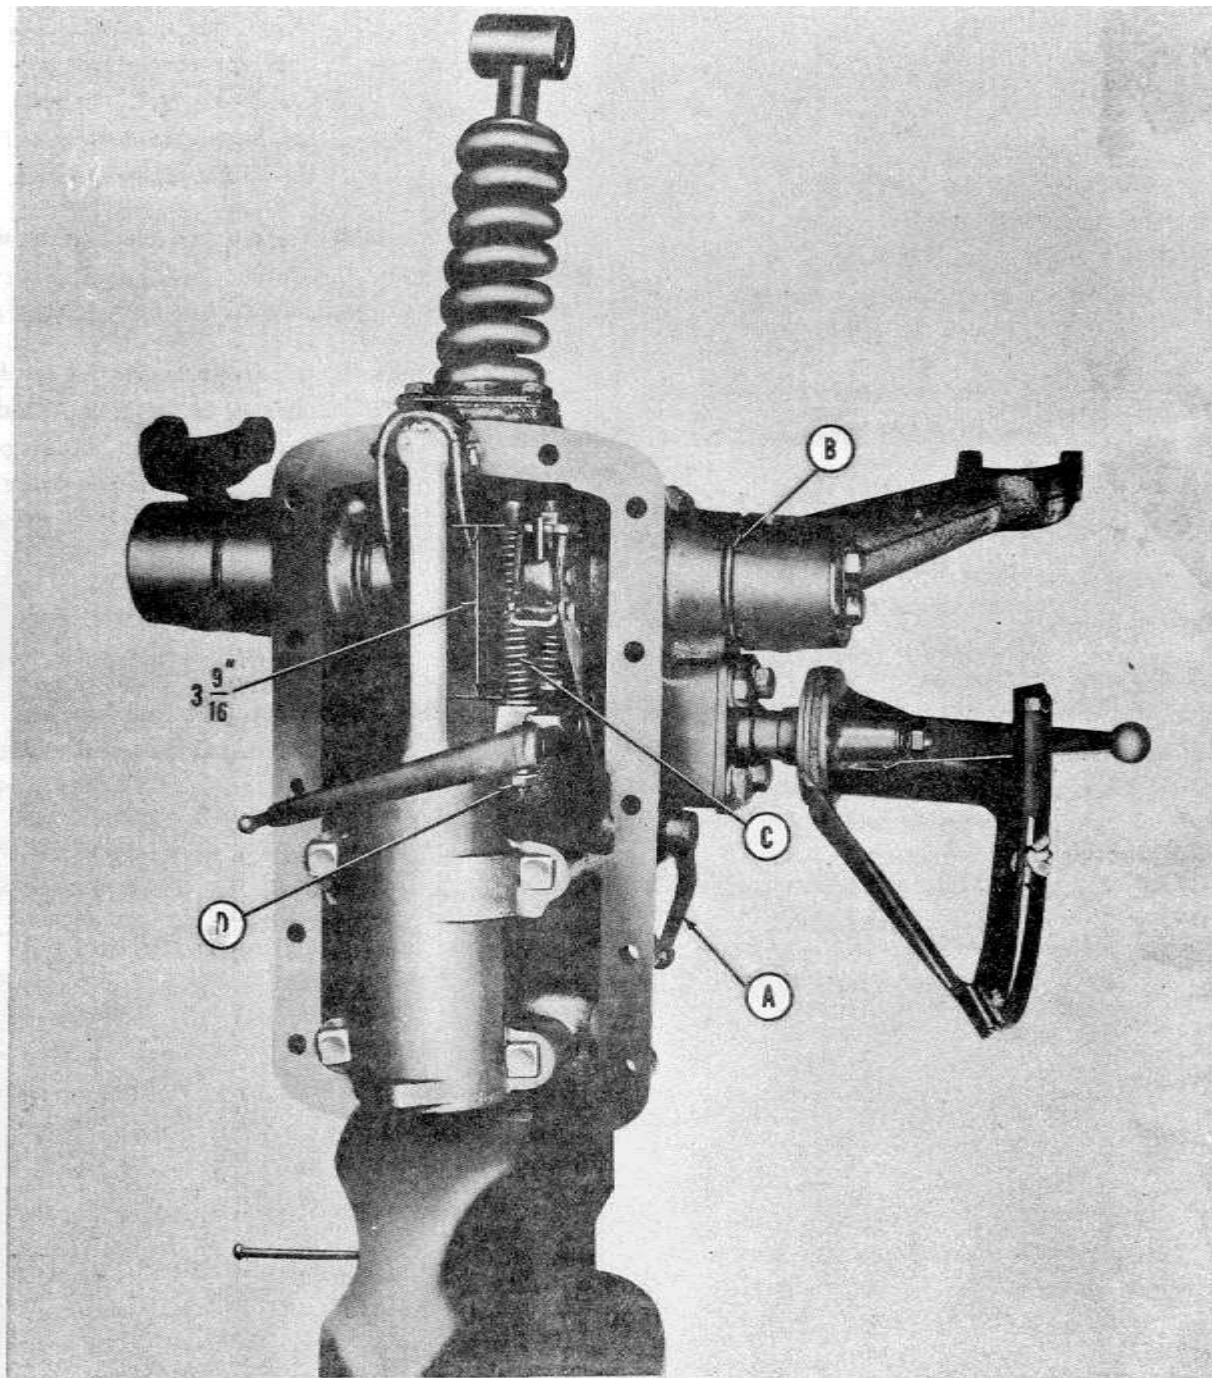

Fig. 6
Start the tractor and raise the touch control lever to the maximum up position. When the lift arms have been raised to their highest position by the pump, check to see if the chisel marks are aligned. If not mark them with a cold chisel as shown at (B—Figure 6).
Step 1—Support the lift cover assembly in a vise in a vertical position with the main control spring up, as shown in Figure 6.
Step 2—Be sure the implement position control lever (A—Figure 6) is disengaged.
Step 3—Check the length of the constant draft control spring (C—Figure 6). It should measure $3\frac{9}{16}$ ".
Step 4—If the spring is too long or too short adjust the nut (D—Figure 6) until the correct spring length is obtained. If the adjusting
Step 3—Raise the lift arms to their top operating position as indicated by marks on the lift arm and housing (B—Figure 6).